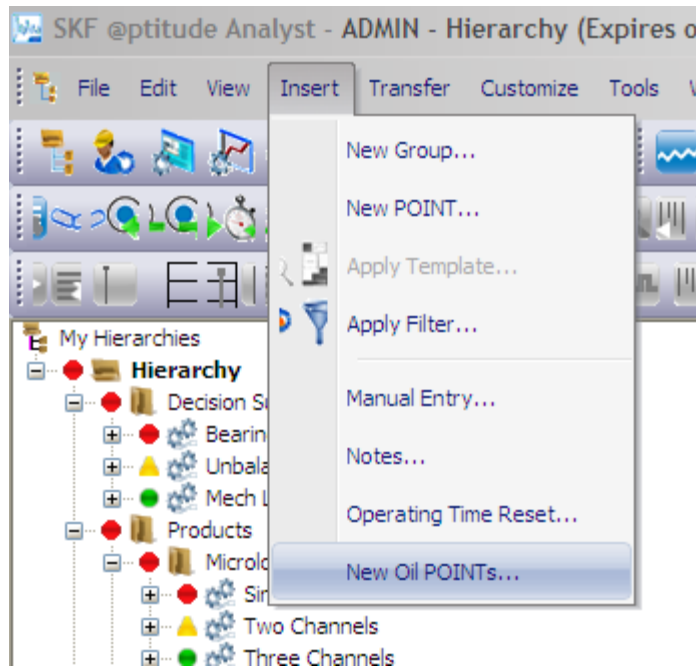

Figure 5. New Oil POINTs
7. From the main menu, select **Insert** → **New Oil POINTs**. [Figure 5]